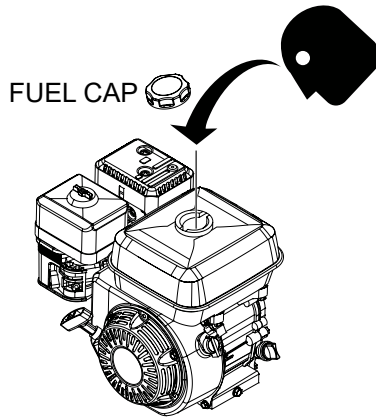

Figure 13. Fuel Check
1. Visually check fuel level. If fuel level is low, refuel with unleaded fuel (Figure 13).